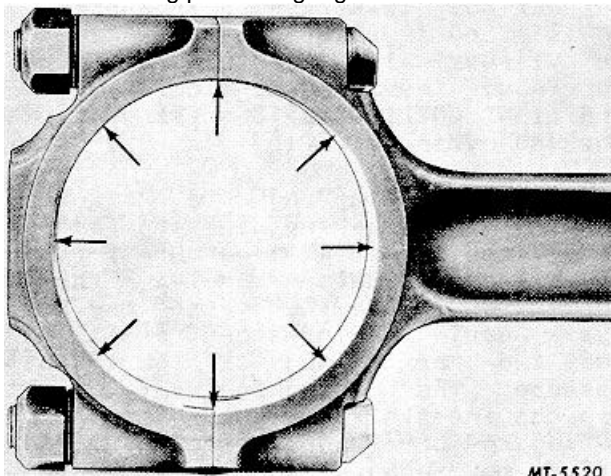

Fig. 86
- (2) Roundness: The bore of the connecting rod, when assembled and the rod bolts, nuts and special hardened washers tightened to specified torque, is round and should not exceed .013 mm (.0005") out-of-round (Fig. 86). This out-of-round inspection can be made using precision gauge furnished with